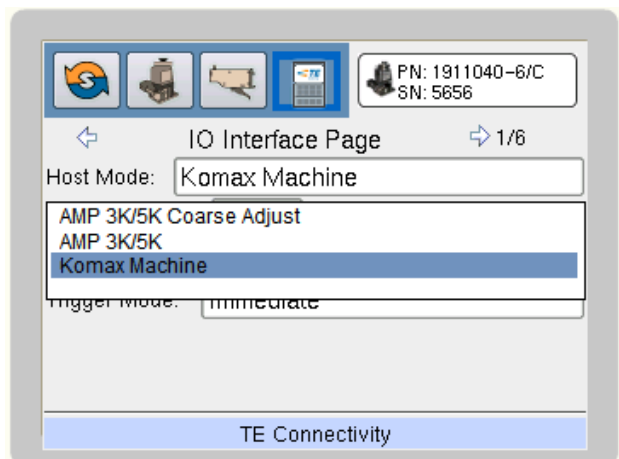

Figure 38
1. Use the Right navigation key to move to the Precision Controller icon. See Figure 38.
2. To change the “Host Mode”, use the Down navigation arrow to move to the Host Mode field. Press the Enter key to enter the Host Mode selection field. See Figure 38.